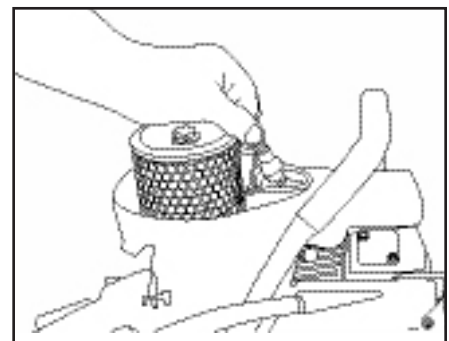

Figure 3
- A worn or fouled spark plug can cause a loss of power, difficulty starting or rough idle (Figure 3).